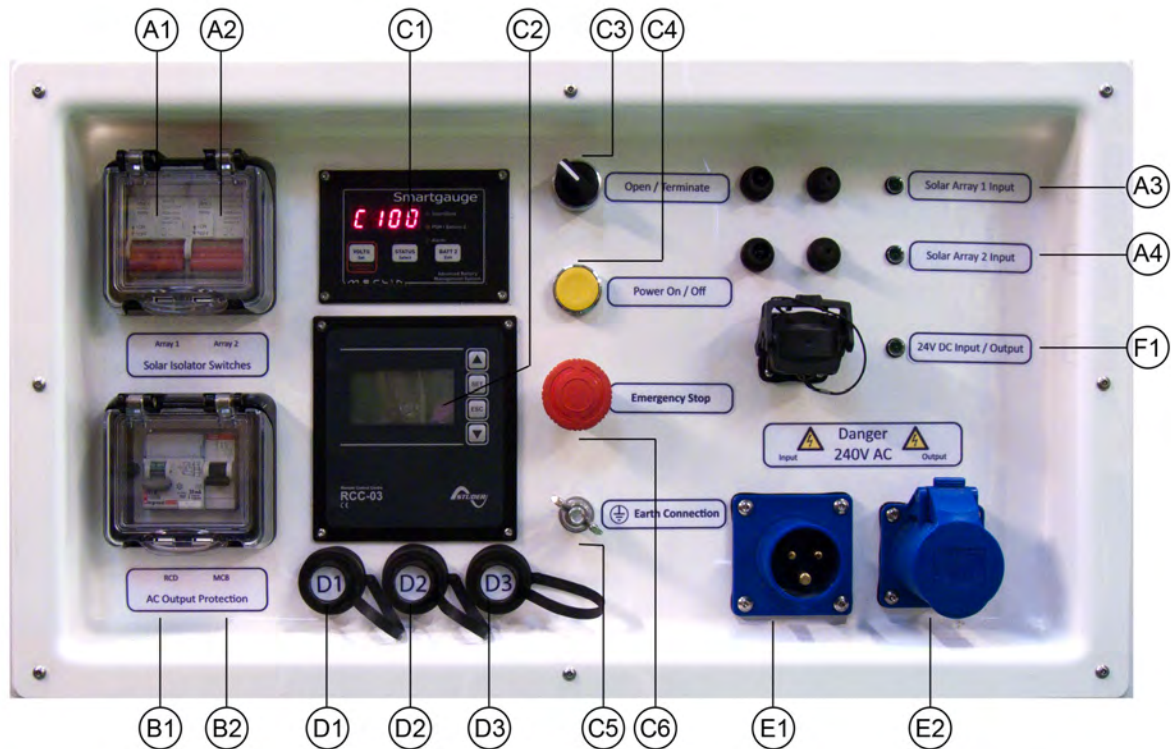

Fig. 1 - Cygnus Control Panel Component Reference
3. On the control panel, locate the earth bolt (Fig. 1, C5) undo the earth bolt wing nut and remove one of the washers. Then slide the ring terminal at the end of the earth cable onto the earth bolt. Replace the washer and tighten the wing nut.
Cygnus is supplied with a 16A industrial CEEform socket for the connection of AC power out to consumers requiring (Fig. 1, E2).
1. Before any power connections are made, ensure that both the RCD (Fig. 1, B1) and MCB (Fig. 1, B2) are switched Off.
2. Plug in the electrical consumers to the AC Out (Fig. 1, E2) socket on the control panel using a 16A CEEform industrial plug.
1. Ensure that the Emergency Stop button is not depressed by rotating clockwise (Fig. 1, C6)
2. Switch on the RCD and MCB switches (Fig. 1, B1 & B2).
3. Switch on the unit using the Power On/Off Switch (Fig. 1, C4).
4. As the unit is switched on, a loud beep will be heard and the RCC-03 (Fig. 1, C2) backlight will illuminate.
The real-time voltage of the battery bank is displayed by pressing the VOLT button on the Smartgauge (Fig. 1, C1).
The SOC is displayed by pressing the Status button on the Smartgauge (Fig. 1, C1) battery monitor. It is indicated by a number preceded with the letter 'C' (e.g. C75). This indicates the percentage of battery life left in the unit. E.g. C75 indicates that there is 75% battery capacity remaining.
1. If there is an emergency and it is necessary to stop the power from the unit, depress the Emergency Stop Button (Fig. 1, C6) on the Control Panel.
1. To turn the unit off press ESC on the RCC-03 (Fig. 1, C2). 'Turn the System Off?' will be displayed.
3. To fully shut down the unit press the On/Off Button (Fig. 1, C4) on the control panel.
4. Turn off the RCD and MCB switches (Fig. 1, B1 & B2).
5. The RCC-03 (Fig. 1, C2) screen will then turn off.
6. Switch off all solar isolator switches (Fig. 1, A1 & A2)